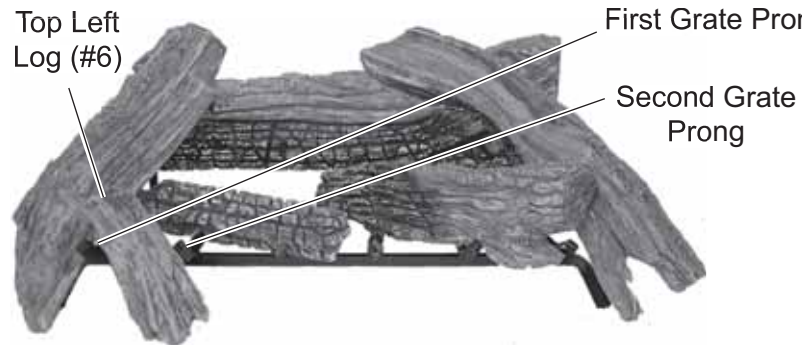

Figure 90 - Resting Top Left Log (#6) on Bottom Left Log and Back Log
7. Place end of Top Left Log #6 on bottom left log. Rest the other end between the first and second grate prongs. *See Figure 90.*